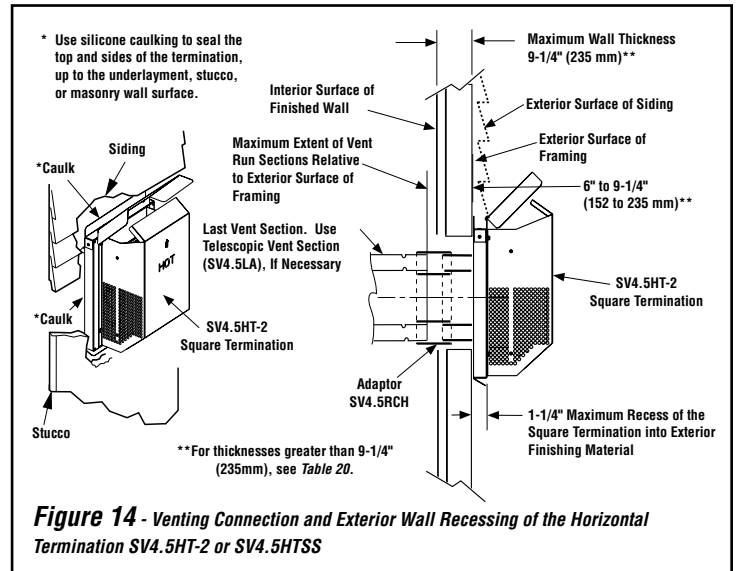

Figure 14 - Venting Connection and Exterior Wall Recessing of the Horizontal Termination SV4.5HT-2 or SV4.5HTSS
6. **Combustible Exterior Wall:** A combustible siding standoff is required when terminating through combustible siding materials. For vinyl siding, stucco or wood exteriors, a siding standoff may be installed between the vent cap and the exterior wall. Siding standoff prevents excessive heat from damaging siding materials. Siding material must be cut to accommodate standoff. Fasten vent cap to standoff. Apply nonhardening mastic around outside edge of standoff. Position standoff/cap assembly over the 12-1/8" x 12-1/8" rectangular hole and attach to exterior wall with appropriate type fasteners for wall material (see **Figure 14**). Siding standoff must sit flush against exterior fascia material.